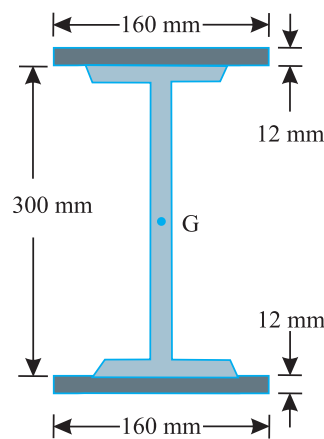

Fig. 7.20.
**Example 7.16.** A compound beam is made by welding two steel plates  $160 \text{ mm} \times 12 \text{ mm}$  one on each flange of an ISLB 300 section as shown in Fig 7.20.